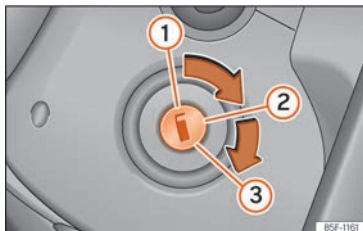

Fig. 129 Ignition key positions.
Key positions » **Fig. 129**
- Turn the key to position »» Fig. 129 ②. Preheating occurs in diesel vehicles .
- Keep turning the key to position »» Fig. 129 ③ without stepping on the accelerator.
- Once the engine starts, release the key. When it is released, the key returns to position ②.